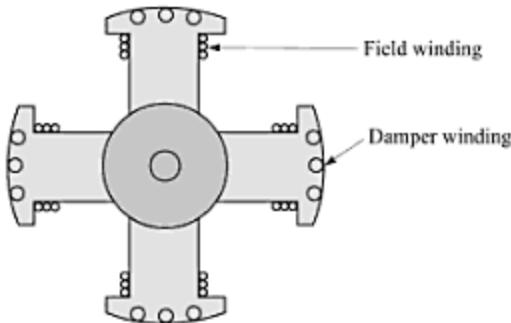

Fig. 14.23 Damper winding placed on the pole faces of a synchronous motor.
**(1) Starting by Using Damper Winding** As shown in Fig. 14.23, bars of copper, aluminium or bronze are inserted in slots on the pole faces. These bars are short-circuited by end-rings on each side of the poles. These shorted turns work like a squirrel cage rotor of an induction motor\*\* and develop torque.
For smooth operation of a synchronous motor, the mechanical speed of the rotor should remain in synchronism with the rotating magnetic field of the stator. Any departure from this equilibrium condition produces forces that tend to bring the rotor back to its equilibrium position. As a result, whenever a departure takes place the rotor slightly oscillates about its equilibrium position. This is called **hunting** of the motor. The hunting may occur due to sudden changes in mechanical load or in excitation current. We can reduce hunting of the motor by using fly-wheels or by providing *damper windings* on the rotor pole faces, as shown in Fig. 14.23.